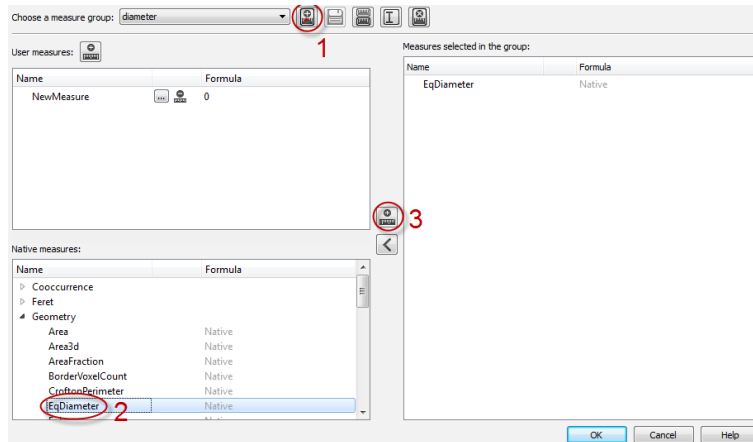

Figure 6.57: Selection of measure groups
- Press on the configuration button of the *Measures* port (the button with 3 dots). A panel opens for the selection of measure groups (see Figure 6.57).
- Create a new measure group by pressing the dedicated button next to the measure group selector (1).
- Select EqDiameter in the native measures list (2) and use the arrow button to add it to the group (3).